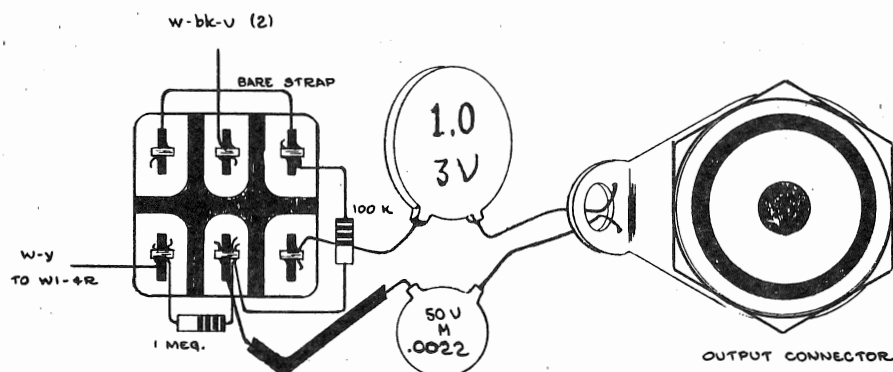

Fig. 2
- b) Unsolder the end of the 0.0022  $\mu$ f capacitor from the switch and resolder to the terminals indicated in Fig. 2. Clean the excess solder from the switch terminals.
- f) Dress the white-black-violet wire, unsoldered in step c, to the 'A' LF REJECT switch. Cut off the excess wire and solder, along with another 6-1/4 in. length of white-black-violet wire, to the switch terminal indicated in Fig. 2.
- g) Resolder the remainder of the components and wires, as indicated in Fig. 2, using a length of bare wire.